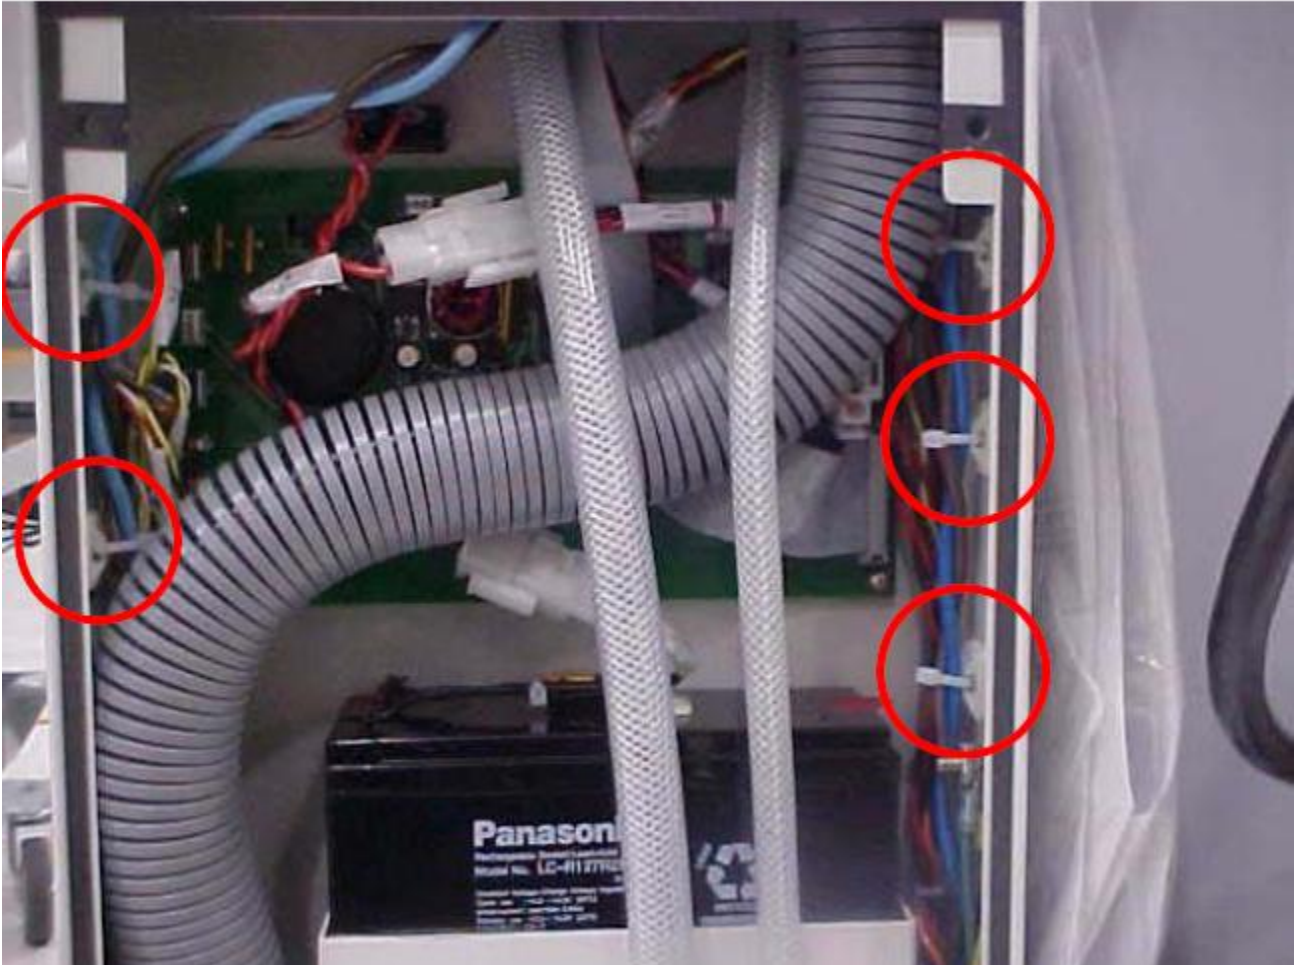

Figure 1 - Inspect Mains Wiring
2. Verify wires are secured in a manner to prevent chafing. (see Figure 1)